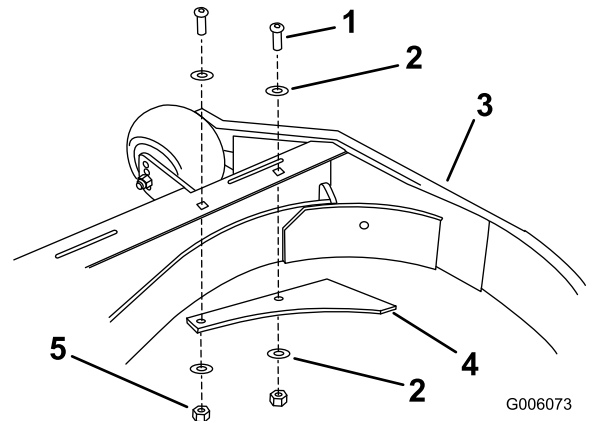

Figure 3
2. Remove the left front plate baffle (Figure 3).